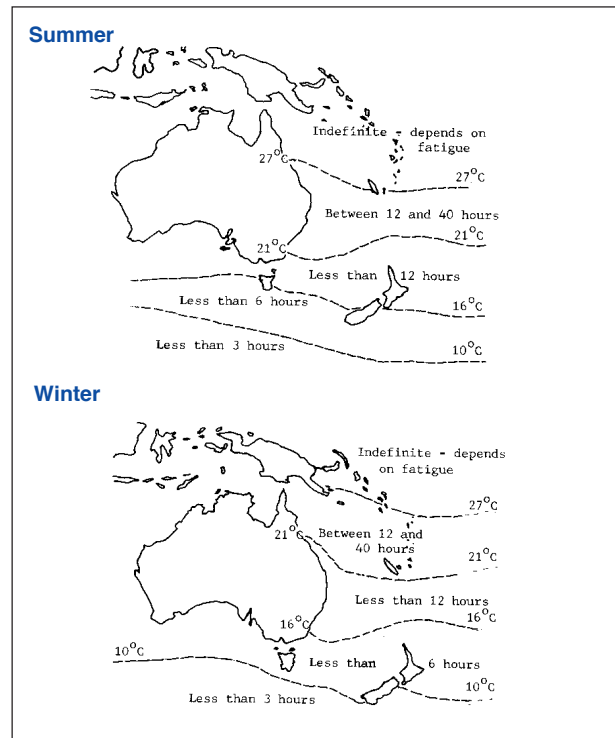

Figure 169.2 Human survival time summer and winter (After Queensland Transport).
2. Refer to Figure 169.2 and answer these questions.